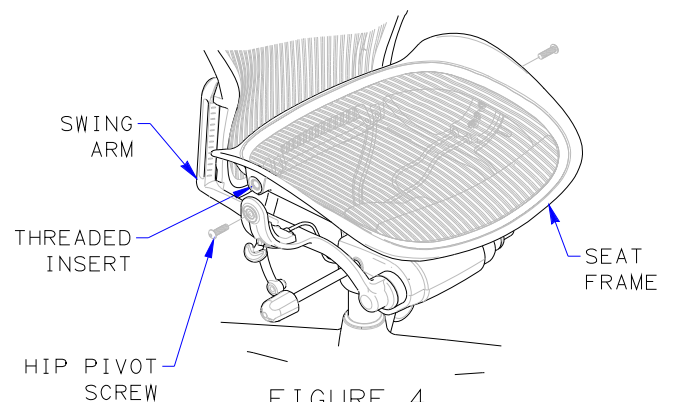

FIGURE 4
17. PLACE SEAT FRAME WITH ATTACHED SEAT LINKS BETWEEN SWING ARMS. INSERT SCREWS SECURING SEAT FRAME TO SWING ARM. TORQUE SCREW TO 175-225 IN-LBS. SEE FIGURE 4.